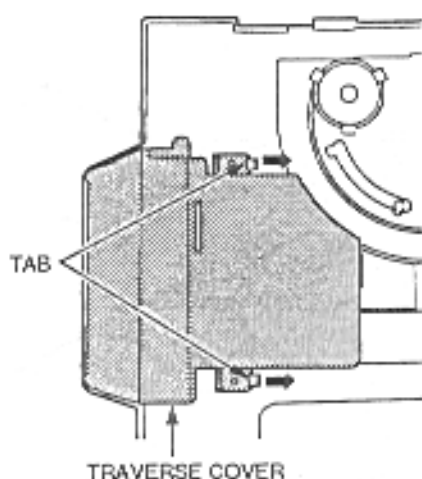

Fig. 3-1
1) Remove the TRAVERSE COVER by releasing the two tabs in the direction of the arrow as shown in Fig. 3-1.